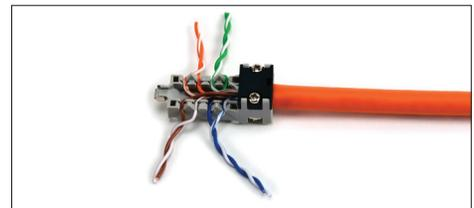

Figure 9
4.4 Place wires into the slots of the cover module following the wiring diagram. There is no need to untwist the wires. Confirm that the wires are positioned and secured at the bottom of the slots. (Figure 9)